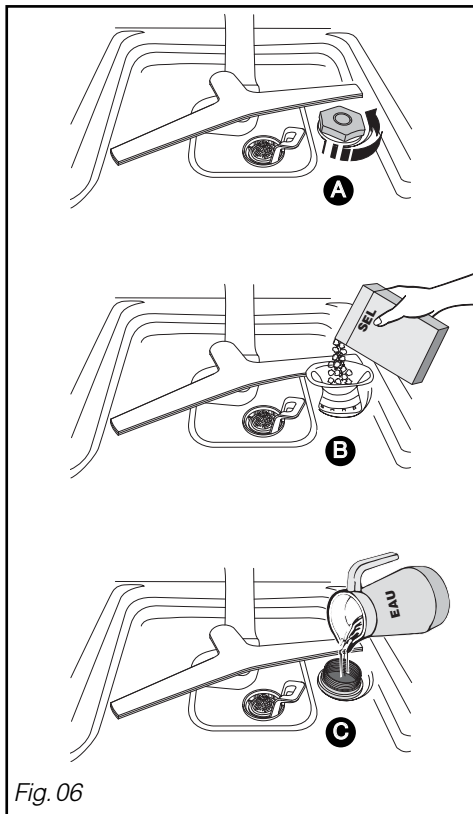

Fig. 06
• **Loading the regenerating salt (Fig. 06)**